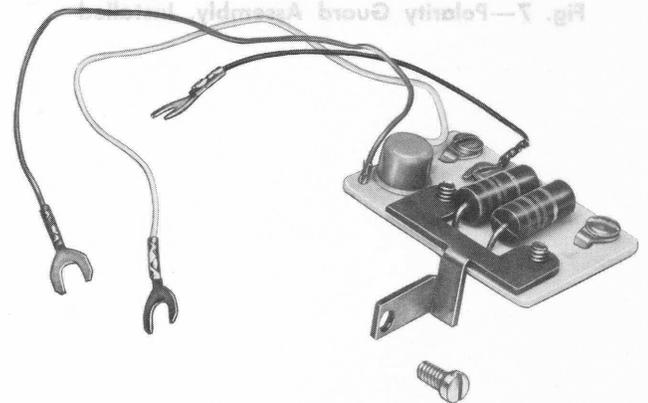

Fig. 6—840359400 Polarity Guard Assembly
5.01 Polarity guard (Fig. 6) is optional and must be ordered separately. Polarity guard is intended for use when specified by local instructions for end-to-end signaling installations. Refer to Table D for connections.